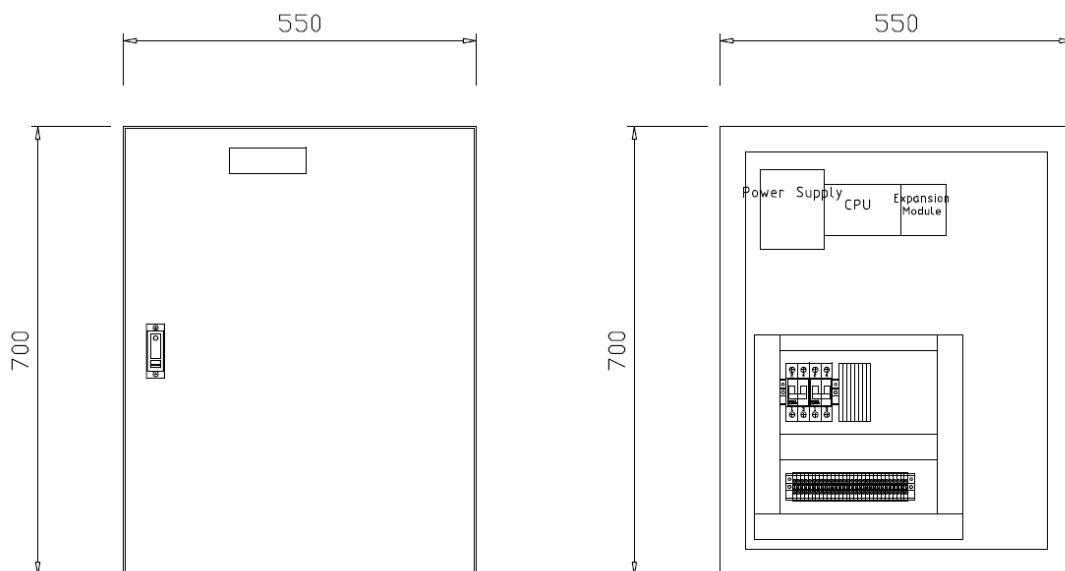

Figure 4.1 Front views and w/o front cover of PLC analog practices
2. Study the installation equipments, drawing (panel, wire duct and din rail) and install all the equipments on the panel by mounting on the plate (follow by panel layout) as shown in figure 4.1.